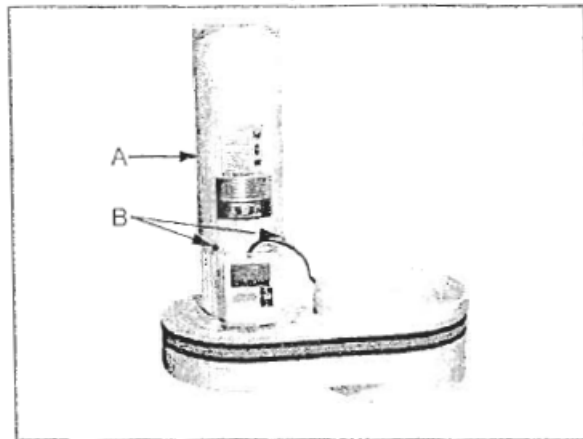

Fig. 2
2. Attach support cylinder (A, Fig. 2) to the motor housing with three M6x16 socket head cap screws and three M6 flat washers (B, Fig. 2).